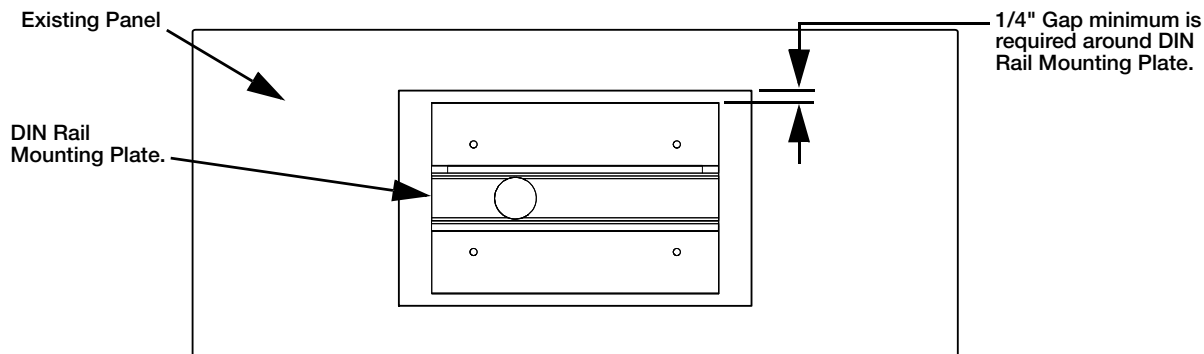

Figure 2. Enlarge Opening (If Required)
1. Using the DIN Rail mounting plate as a guide, mark the panel for cutting the opening to the size required. There should be at least 1/4" gap between the mounting plate and the opening in the panel. See Figure 2.